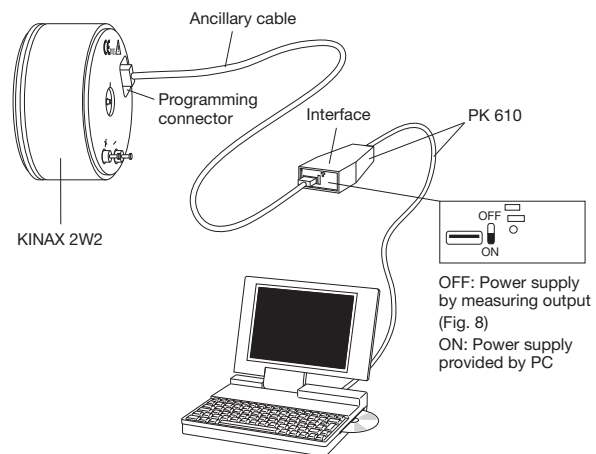

Fig. 4
Angular position transmitters of the KINAX 2W2 range do not require a mechanical zero position mark (however, this is made if required by the customer). After mounting, the transmitter can be moved to any position and configured using the 2W2 software. A power supply connection to the KINAX 2W2 is not required in order to use the 2W2 configuration software (Fig. 4; AUX switch on the PK 610 in the ON position).
1. Mount the angular position transmitter and mechanically connect it to the object to be measured. Connect the KINAX 2W2 to the programming device according to Fig. 4. Start the 2W2 configuration software. If necessary, configure the device with the required measuring range data.
1. Put the transmitter into operation and connect the programming device according to Fig. 4 (AUX switch on the PK 610 in the OFF position).